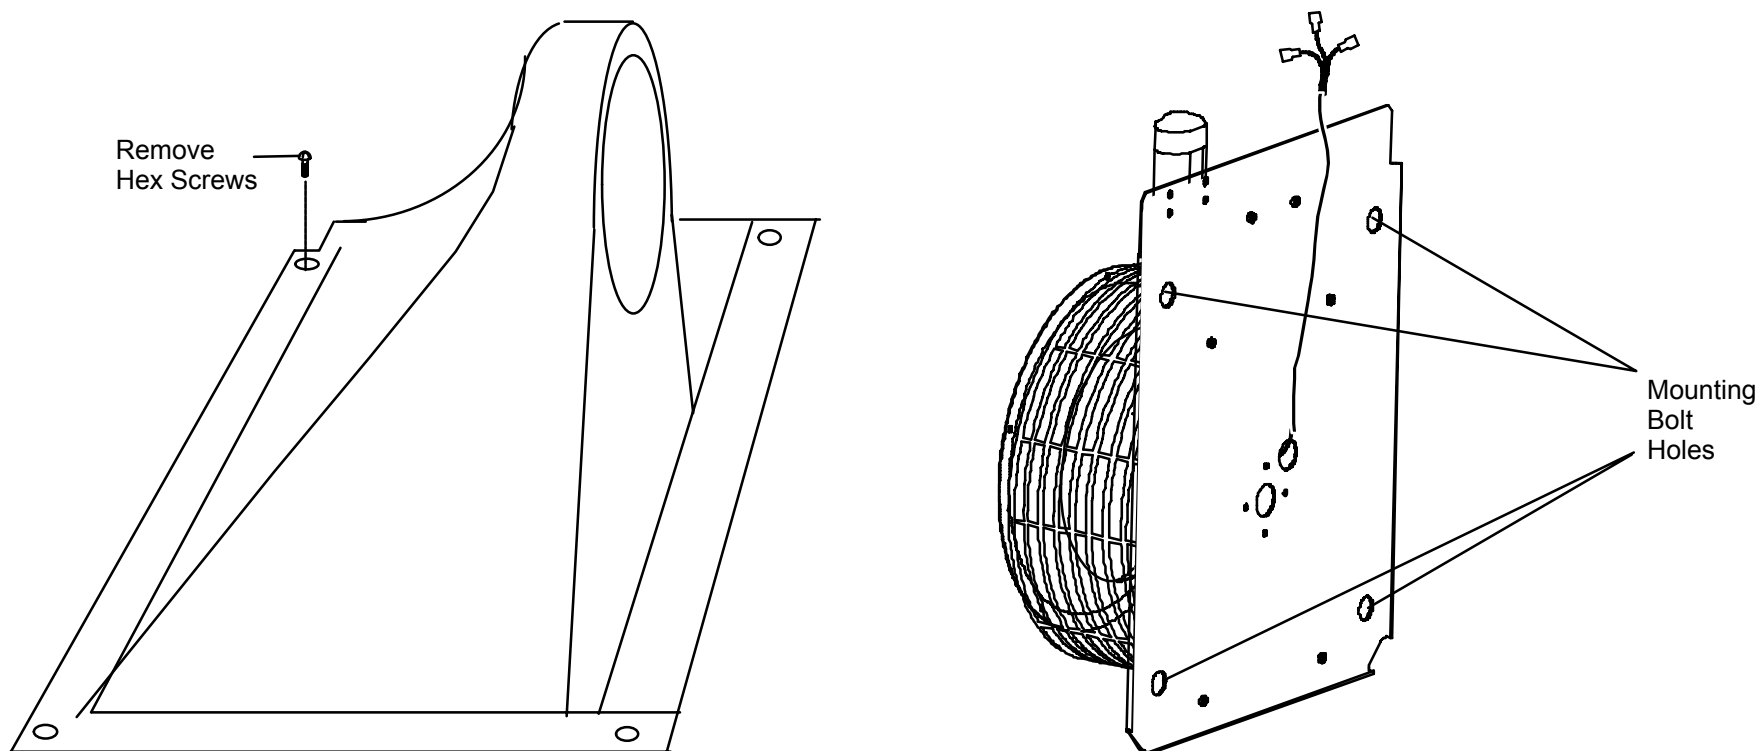

FIGURE 291 Gantry Air Duct (right) / Gantry Blower Assembly
5. Remove the four Mounting Screws and remove the Air Inlet Duct. See Figure 291.
6. Remove the four blower mounting Bolts, Nuts and Washers that secure the Blower Assembly to the Gantry column. See Figure 291.